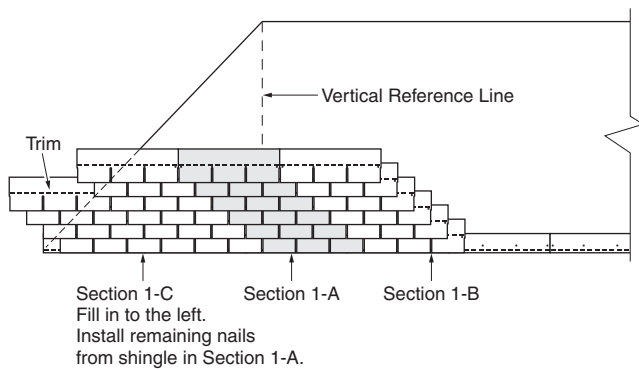

Figure 9-4: Filling in the area to the left of the vertical reference line.
3. Before continuing up the roof section, apply one shingle immediately to the right of each shingle of the completed first section (see Figure 9-4, Section 1B).
3. Before beginning each diagonal section, apply one shingle immediately to the right of each shingle of all courses already installed on the roof (as in Figure 9-4, Section 1-B).